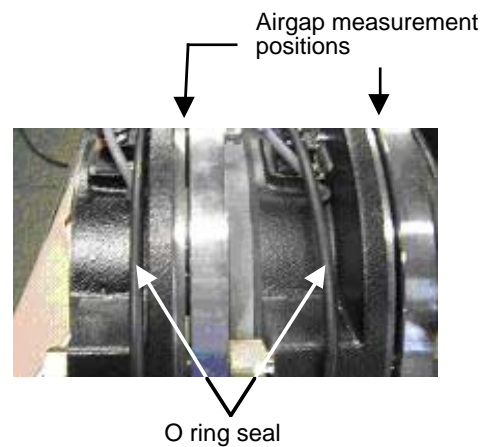

Fig. 4
- Remove the O ring seal with the aid of a flat screwdriver. Do not remove completely as indicated on fig 4.